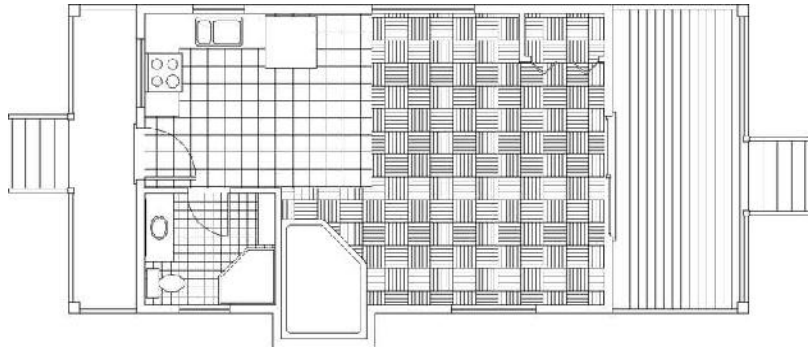

FIGURE 11.24: The user-defined hatch pattern on the front deck
14. Set the Hatch Angle to 90 and Hatch Spacing to 6" (152).
17. Assuming the preview looks like Figure 11.24, click to insert the hatch into your drawing and press ↵ to end the HATCH command.